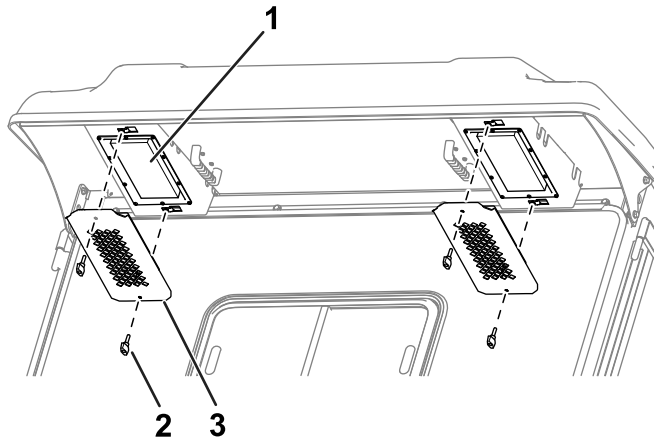

Figure 126
1. Remove the knobs and grates from the cab rear overhang (Figure 126).
4. Use the knobs and grates to install the filters into the cab (Figure 126).